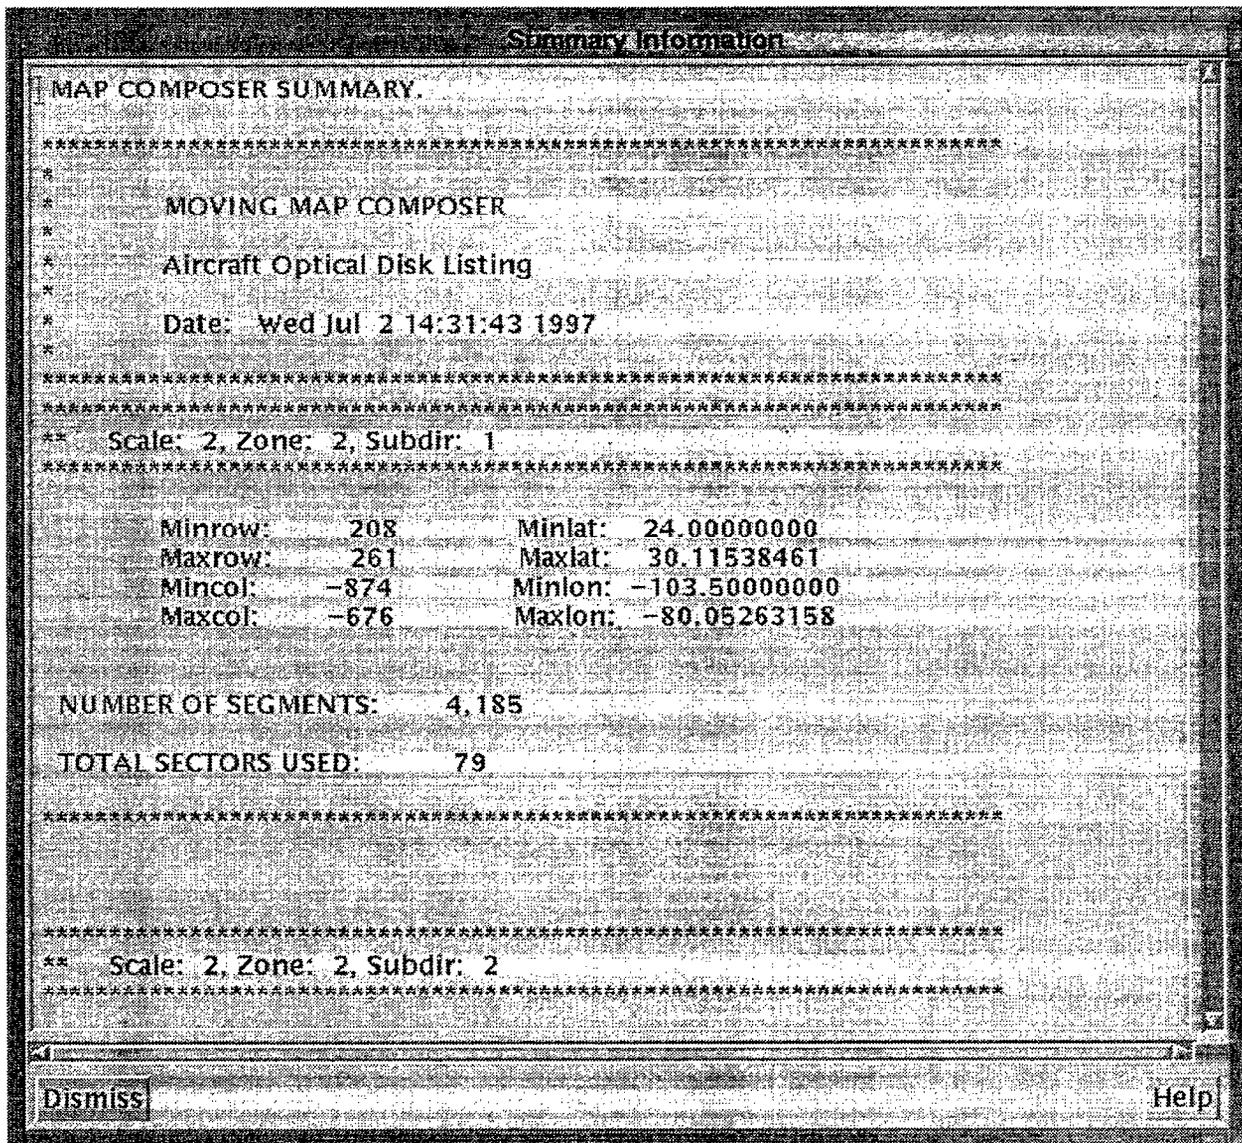

Fig. 32 — Sample AOD summary listing
3.3.6.1.1 *Generate AOD Summary*—Generates a summary of any existing AOD composition, composition in development, or final AOD image (Fig. 32). For each zone, scale, and subdirectory in the composition or image file, *AOD Summary* provides the minimum and maximum latitude and longitude, the number of CAC segments defined, and the number of sectors that would be used if the image were written to an AOD. The summary also gives the total number of bytes in the composition.